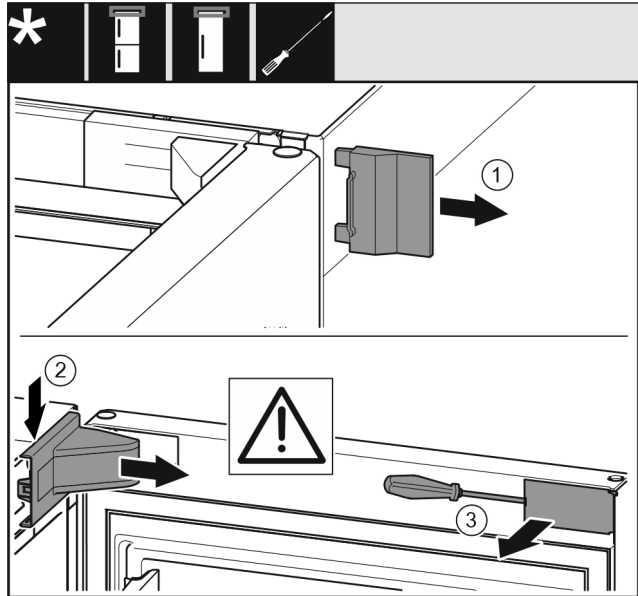

Fig. 7
- ▶ Remove the outer cover Fig. 7 (1).
- ▶ Disengage and remove the swap bearing block cover Fig. 7 (2).
- ▶ Use a slotted screwdriver to unlatch the trim Fig. 7 (3) and swing it to the side.